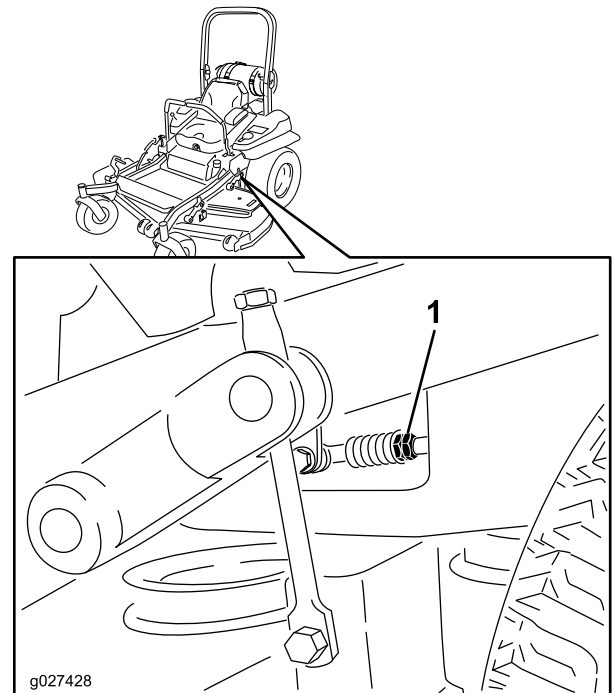

Figure 81
8. Adjust the pump-control rod lengths by rotating the double nuts on the rod in the appropriate direction until the wheels slightly creep in reverse (Figure 81).